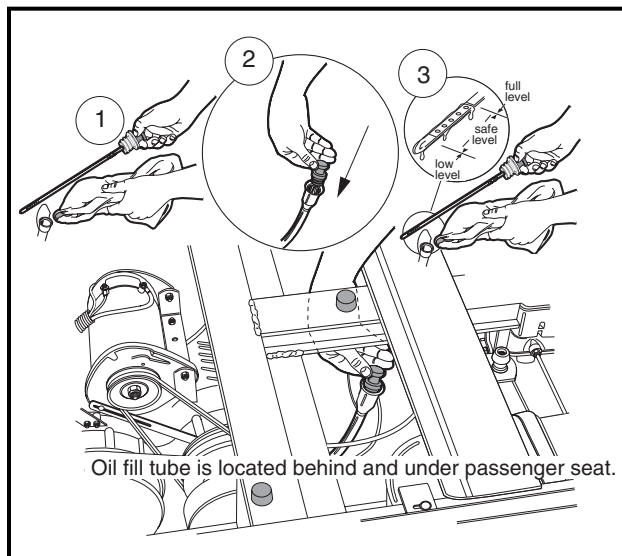
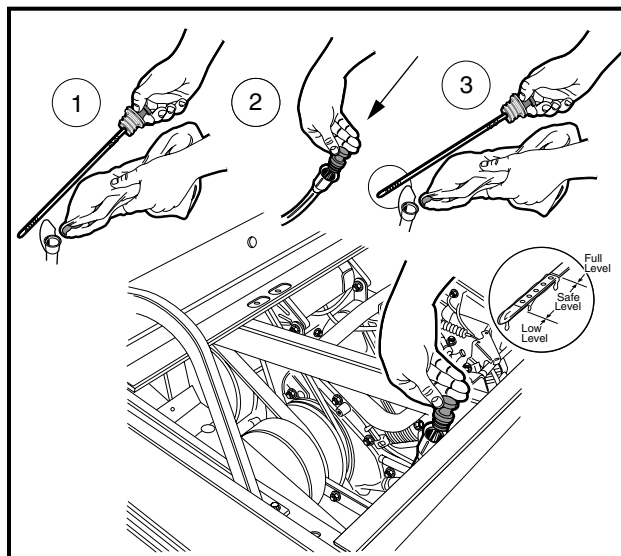

Figure 19 Engine Oil Level Check – XRT 1200
Figure 20 Engine Oil Level Check – XRT 1200SE
1. Remove the oil level dipstick from the oil filler tube and wipe oil from stick. **See Figure 19 or Figure 20. See following CAUTION.**